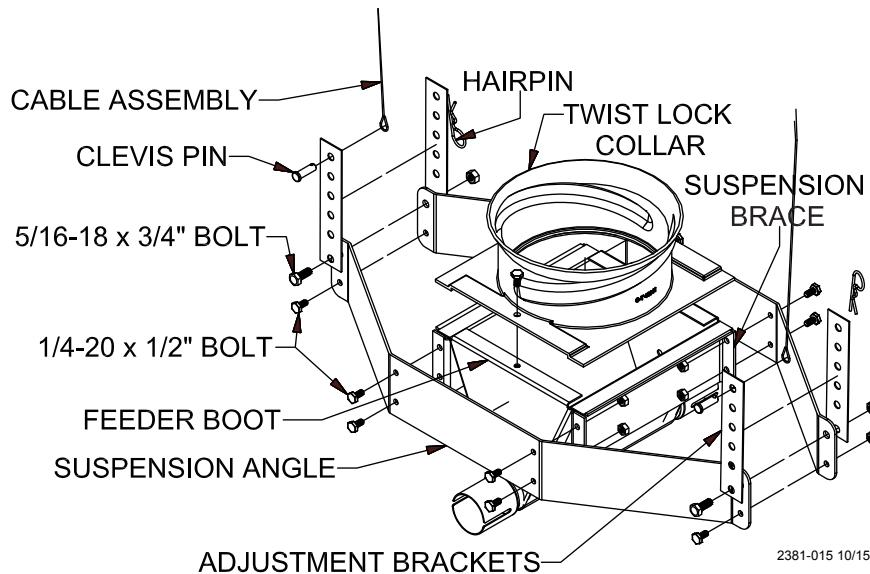

Figure 15.Hopper Assembly (Bottom)
4. Assemble suspension angles and suspension braces around feeder line boot (single or twin), using 1/4-20 x 1/2" Hex bolts and nuts (supplied in hardware package), see **figure 15**.
5. Assemble the twist lock collar to the top of the feeder line boot (single or twin) using 1/4-20 x 1/2" bolts and lock nuts (supplied in hardware package), see **figure 15**.
7. Two cable assemblies (cable with a sleeve clamp and a 5/32 thimble) are supplied with the suspension kit to support the hopper. Attach the cable assemblies to the adjustment brackets using the top holes of the adjustment brackets, see **figure 15**.